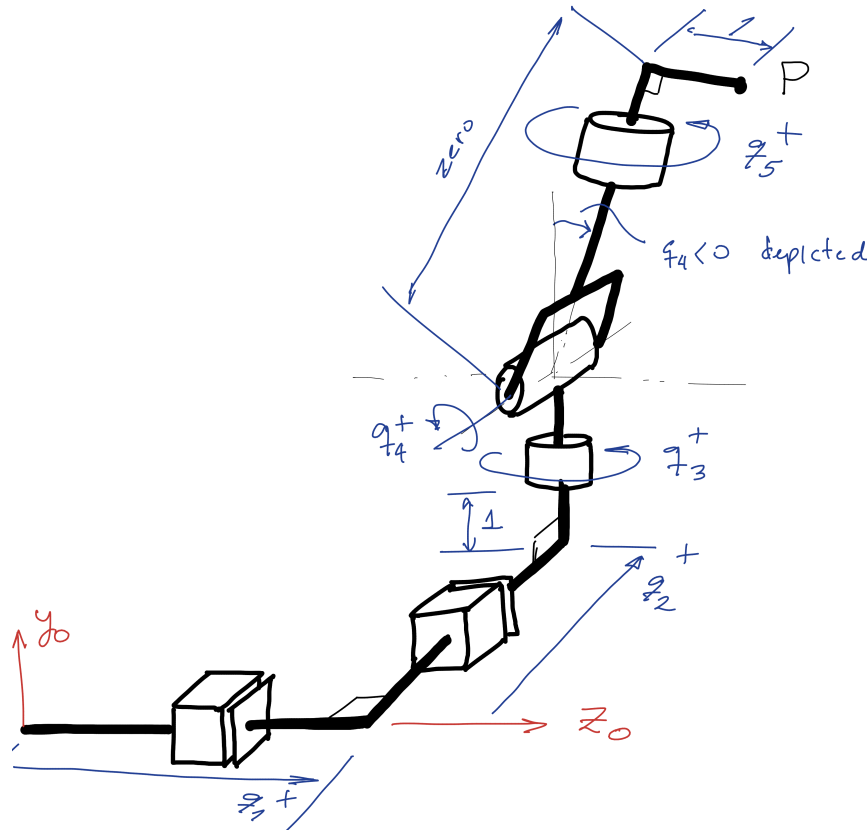

Figure 1: 5-dof robot with spherical wrist.
**Problem 2: (forward kinematics)** Consider the PP robot with spherical wrist shown in Fig. 1. Consider all 3 d.o.f. of the spherical wrist to be concentric (zero lengths between joints).